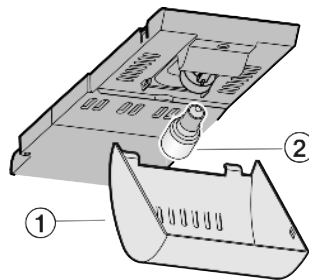

Fig. 14
- ▶ Take holder of the cover Fig. 14 (1) at the front and unhook it at the back.
- ▶ Change the bulb Fig. 14 (2).
- ▶ Put the cover Fig. 14 (1) back in place.